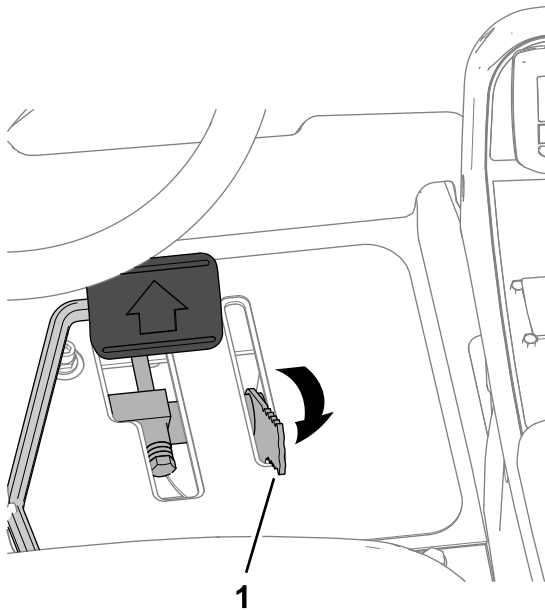

Figure 49
3. Move the lever for the mow-speed limiter rearward to the TRANSPORT position (Figure 49).